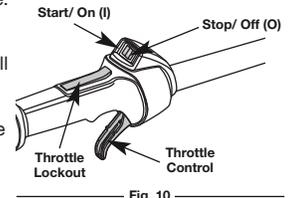

Fig. 10
**NOTE:** There is no need to turn the unit on. The On/Off Control is in the ON (I) position at all times (Fig. 10).